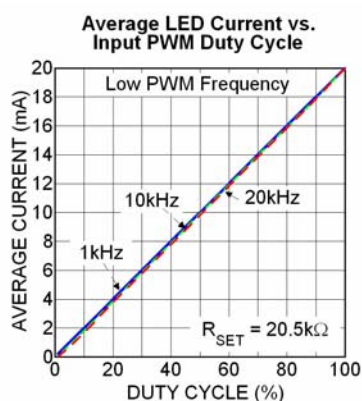
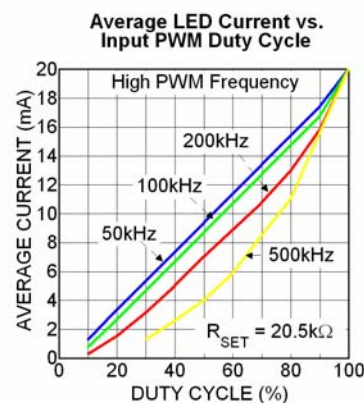
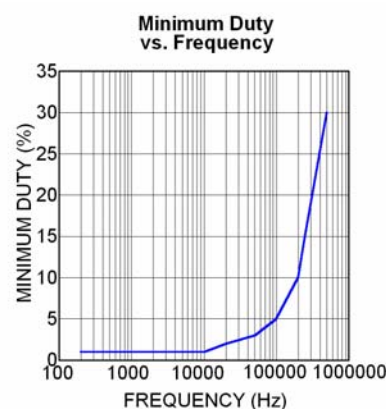

Figure 3. Average Current per LED Dimming by Changing PWM Duty Cycle for PWM Frequencies up to 20kHz
Figure 4. Channel Current Response to PWM Control Signal Frequencies from 50kHz to 500kHz
Figure 5. Minimum Duty Cycle for Varying PWM Frequency
WLED dimming is achieved by applying a pulse width modulated (PWM) signal to the END pin. For PWM frequencies between 200Hz – 20kHz the MIC2845A supports a duty cycle range from 1% to 100%, as shown in Figure 3. The MIC2845A incorporates an internal shutdown delay to ensure that the internal control circuitry remains active during PWM dimming. This feature prevents the possibility of backlight flickering when using low frequency PWM control signals. The MIC2845A also supports Ultra Fast PWM™ frequencies from 20kHz to 500kHz. Due to input signal propagation delay, PWM frequencies above 20kHz have a non-linear relationship between the duty cycle and the average LED current, as shown in Figure 4 and Figure 5. Figures 6 through 10 show the WLED current response when a PWM signal is applied to the END pin (1).